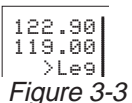

Figure 3-3
2. To exchange the active and standby frequencies, press the (flip-flop) button (figure 3-3).